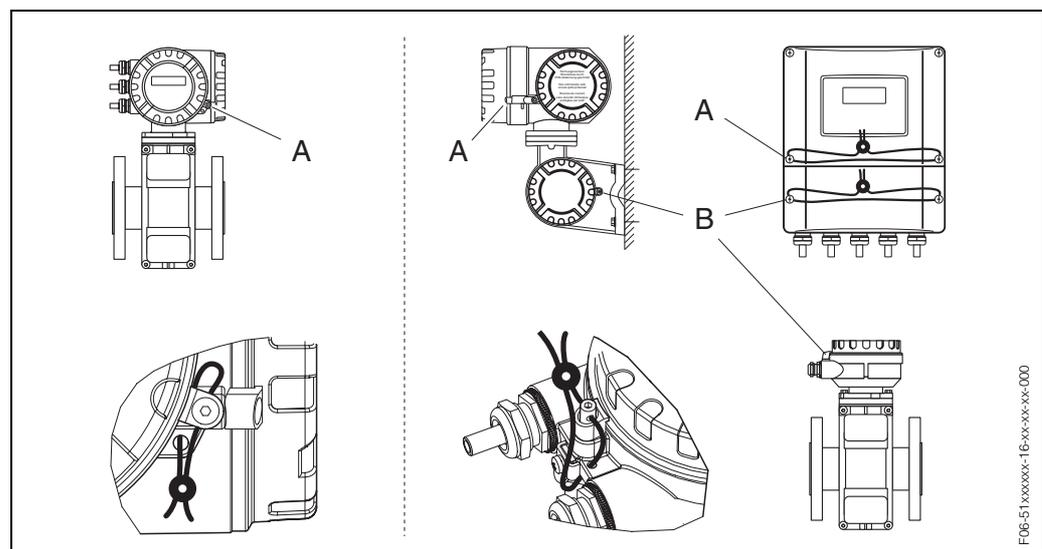

Fig. 41: Sealing of a certified Promag 51 measuring system by standards authorities.
<ol style="list-style-type: none"> <li>1. Open the transmitter's electronics compartment cover by loosening the corresponding sealing screws (A).</li> <li>2. First of all, configure all functions important for custody transfer mode, such as "PULSE CT TRANSFER", etc.</li> <li>3. Now enter the custody transfer code "5100" in the "CODE ENTRY" function. The device is then in custody transfer mode. "CUSTODY TRANSFER YES" appears on the display. This "fixes" and saves the custody transfer mode internally in the measuring system.</li> </ol> <p> Caution!</p> <ul style="list-style-type: none"> <li>- In custody transfer mode, all functions relevant to custody transfer are automatically locked. These functions can not be changed later on sealed measuring devices; they are marked in the "Description of Device Functions" Manual with a key-hole symbol (  ).</li> <li>- Additional particularities in custody transfer mode are described on Page 75.</li> </ul> <ol style="list-style-type: none"> <li>4. Tightly screw the electronics compartment cover back onto the transmitter housing (for the compact version also the retaining claw).</li> <li>5. The measuring device now has to be sealed with the sealing screws (A, B, see Fig. 41).</li> </ol>	<ol style="list-style-type: none"> <li>1. Switch the power supply off.</li> <li>2. Break the leaded sealing (A) and open the transmitter's electronics compartment cover by loosening the sealing screws.</li> <li>3. Remove the display module by pressing the side latches and pull the S-DAT off the amplifier board → Page 98, 100.</li> <li>4. Reinsert the display and close the electronics compartment cover onto the transmitter housing.</li> <li>5. Restart the measuring system by switching on the power supply: <ul style="list-style-type: none"> <li>- When started, the "CUSTODY TRANSFER NO" message appears on the display. Custody transfer mode is now deactivated. All functions in the programming matrix are now accessible again.</li> <li>- Now, the error message No. #031 "SENSOR HW-DAT" (see Page 87) will appear because the S-DAT is not connected. To remedy this, proceed as follows.</li> </ul> </li> <li>6. Switch the power supply off again! Now complete the following procedure: <ul style="list-style-type: none"> <li>- Remove electronics compartment cover</li> <li>- Remove display module</li> <li>- Put S-DAT back onto the amplifier board → Page 98, 100</li> <li>- Reinsert display</li> <li>- Mount electronics compartment cover back onto the transmitter housing</li> <li>- Switch power supply on</li> </ul> </li> </ol> <p>Normal operation in "non-custody transfer mode" is now fully possible.</p>